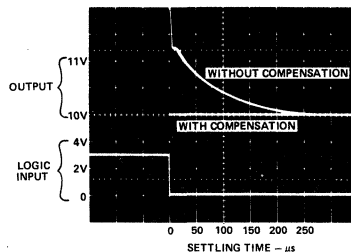
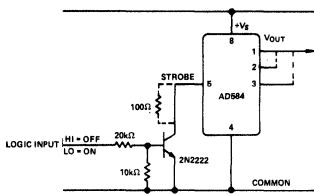

Figure 8b. Output Settling Characteristic
Figure 11. Use of the Strobe Terminal
and represents the true turn-on waveform after an extended period with the supplies off. The figure shows both the coarse and fine transient characteristics of the device; the total settling time to within ± 1 millivolt is about $180\mu\text{s}$, and there is no long thermal tail appearing after the point. Figure 8B demonstrates the settling characteristics using the strobe input (see Figure 11). Without compensation, the output of the AD584 typically settles within $225\mu\text{s}$. With a 90pF capacitor across pins (5) and (3), critical damping is approximated, as shown in Figure 8B, with settling times $< 5\mu\text{s}$.
Figure 11 illustrates the strobe connection. A simple NPN switch can be used to translate a TTL logic signal into a strobe of the output. The AD584 operates normally when there is no current drawn from pin 5. Bringing this terminal low, to less than 200mV, will allow the output voltage to go to zero. In this mode the AD584 should not be required to source or sink current (unless a 0.7V residual output is permissible). If the AD584 is required to sink a transient current while strobed off, the strobe terminal input current should be limited by a 100Ω resistor as shown in Figure 11.